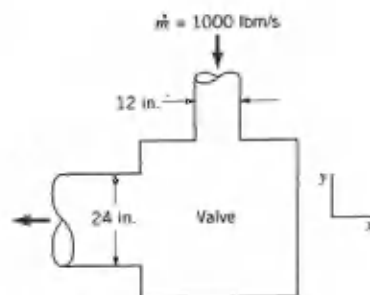

FIGURE P5.5R
5.5R (Linear momentum) Water flows through a right angle valve at the rate of 1000 lbm/s as is shown in Fig. P5.5R. The pressure just upstream of the valve is 90 psi and the pressure drop across the valve is 50 psi. The inside diameters of the valve inlet and exit pipes are 12 and 24 in. If the flow through the valve occurs in a horizontal plane, determine the x and y components of the force exerted by the valve on the water.